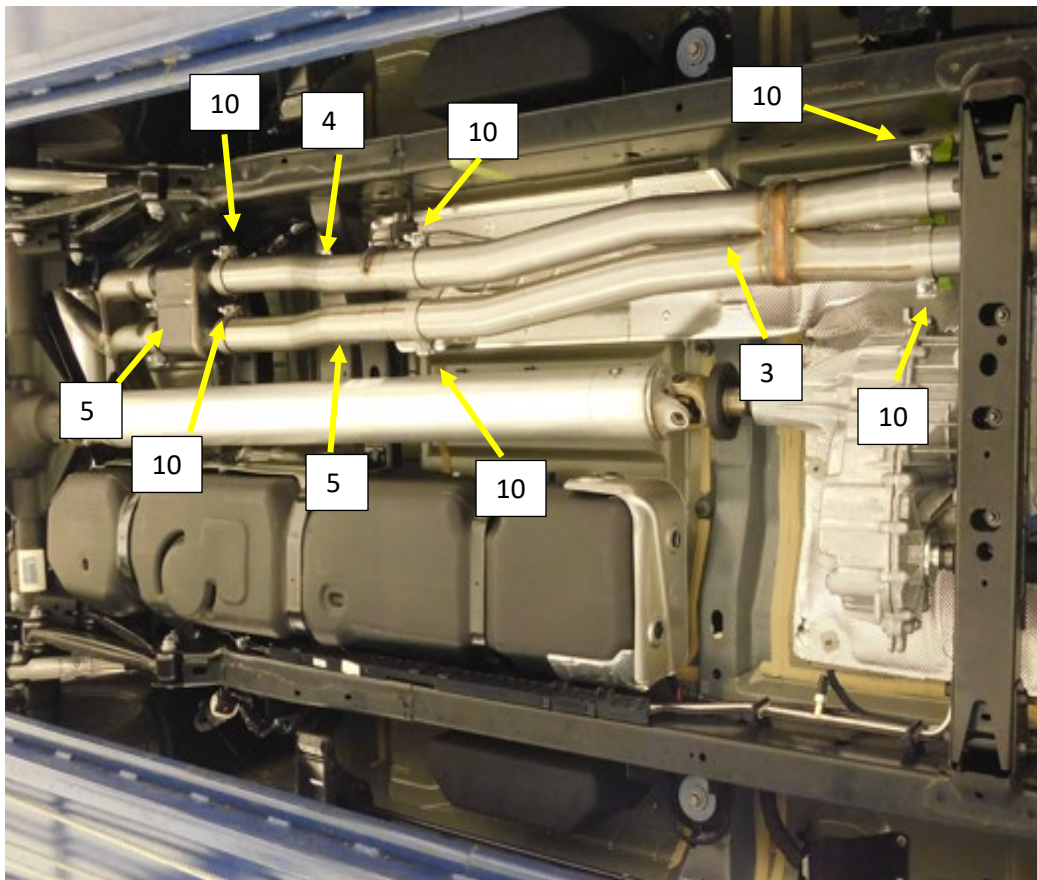

Figure.10
6. Install a 3" band clamp (10) on to each expanded and notched end of the Scvavenger pipe (3) with the bolts to the outside of the pipe and nuts facing the ground. **Fig.10**
7. Install the scavenger pipe (after trimming to length if necessary) on to the down pipes with the Flowmaster logo towards the ground. Support the assembly. Tighten the clamps to allow for adjustment. **Fig.10**
8. Install a 3" band clamp (10) on to the expanded and notched end of each of the Right (4) and Left (5) Muffler inlet pipes. **Fig.10**
9. Install the right muffler inlet pipe (4) on to the Scavenger pipe (3) and install the hanger rod into the Isolator on the frame. Tighten the clamp to allow for adjustment. **Fig.10**
10. Install the left muffler Inlet pipe (5) on to the Scavenger pipe (3), tighten the clamp to allow for adjustment. **Fig.10**
11. Install a 3" band clamp (10) on to each muffler (5) inlet pipe with the bolt facing away from the drive shaft and nut facing the ground. Install the muffler (5) on to the muffler inlet the pipes. Tighten the clamps to allow for adjustment. **Fig.10**